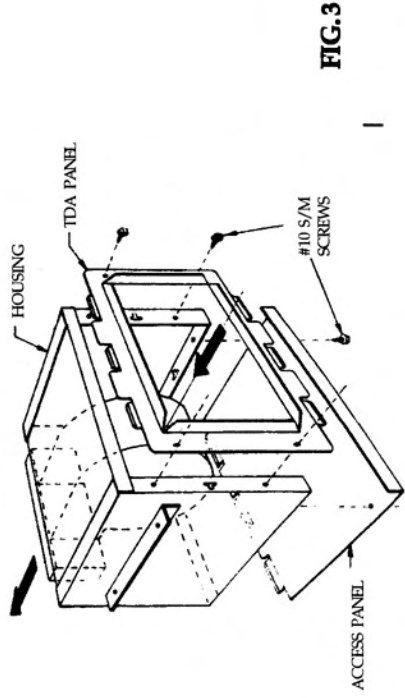

FIG. 3
NOTE: As a standard, fans are furnished with an IN-LINE discharge as shown in Fig. 3.
- 1) DISASSEMBLE THE TDA PANEL FROM THE HOUSING; FIRST REMOVE THE FOUR #10 SHEET METAL SCREWS SECURING THE TDA PANEL TO THE HOUSING, THEN REMOVE THE ACCESS PANEL BY REMOVING THE TWO #10 SCREWS. PULL BOTH PANELS AWAY FROM THE HOUSING AS SHOWN IN FIG. 3.